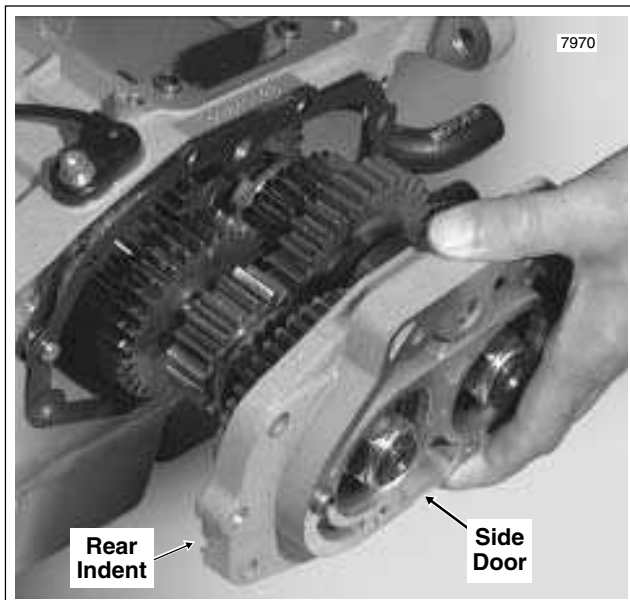

Figure 7-27. Remove Transmission Side Door
7. See Figure 7-27. Remove the six socket head screws (bottom four with flat washers) to free both the side door and transmission exhaust bracket from the transmission case. Pull the side door, mainshaft and countershaft from the transmission case as a single assembly. Remove and discard the door gasket.
DO NOT USE A HAMMER TO REMOVE THE SIDE DOOR. If the side door sticks or binds on the locating dowels, gently pry open using the indents at each side of the door. See Figure 7-27. Exercise caution to avoid damaging paint.
2. Squirt a liberal amount of clean transmission lubricant into the main drive gear to prelube needle bearings. Install the assembled side door in the transmission case. See Figure 7-27.